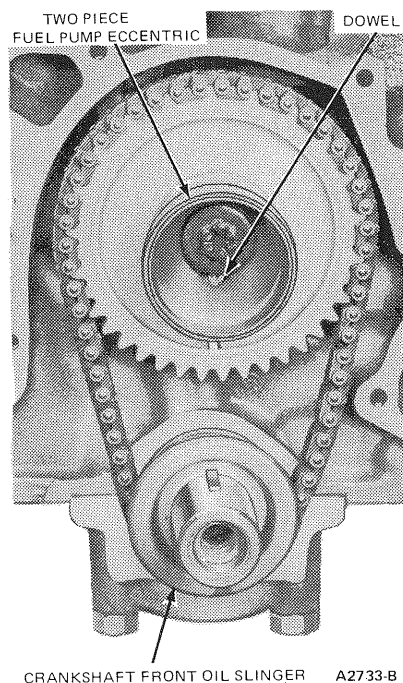

FIG. 53 Fuel Pump Eccentric and Front Oil Slinger Installed
2. Install the fuel pump eccentric, washers and camshaft sprocket cap screw. Torque the sprocket cap screw to specifications. Install the crankshaft front oil slinger (Figure 53).